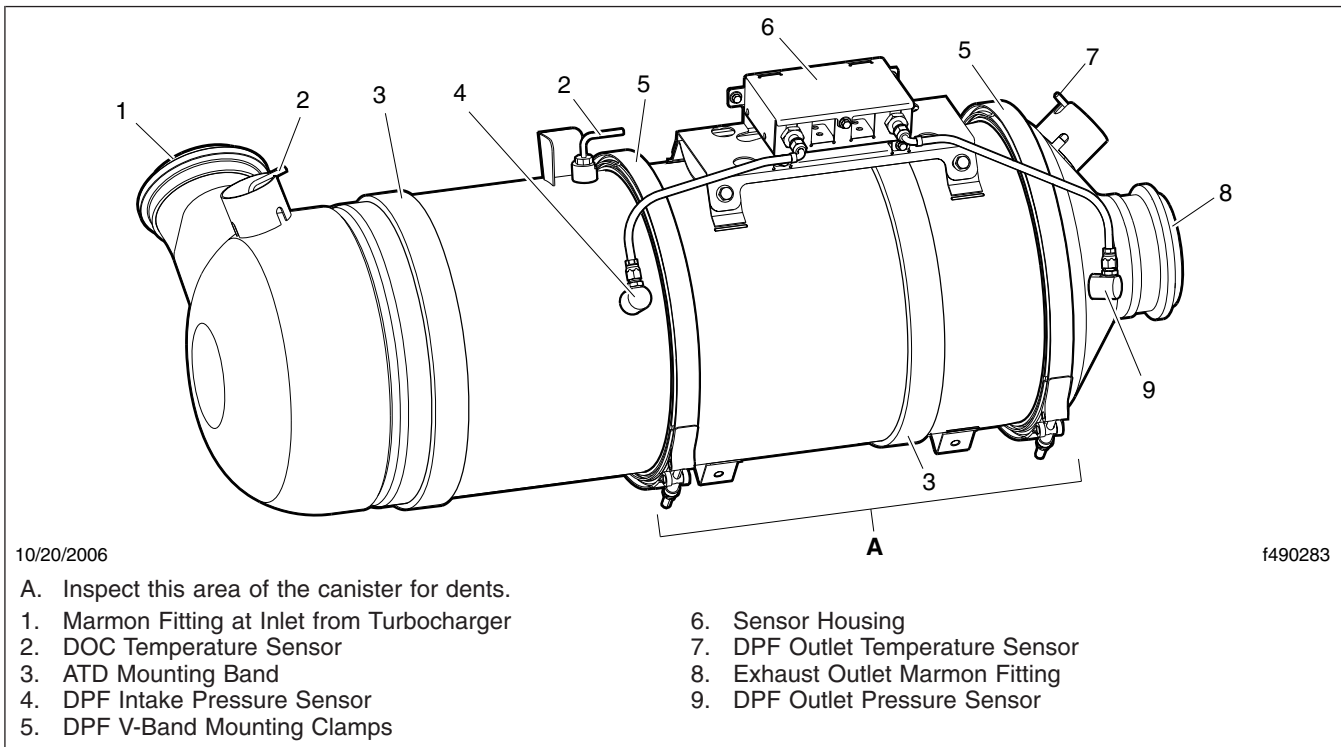

Fig. 4, Typical EPA07 Aftertreatment Device
8. Check the DPF exterior surface for dents or other damage. See Item A of Fig. 4. A dent over 3 inches (76 mm) in diameter and 1/4-inch (6-mm) deep could cause internal damage to the DPF, causing it to malfunction.